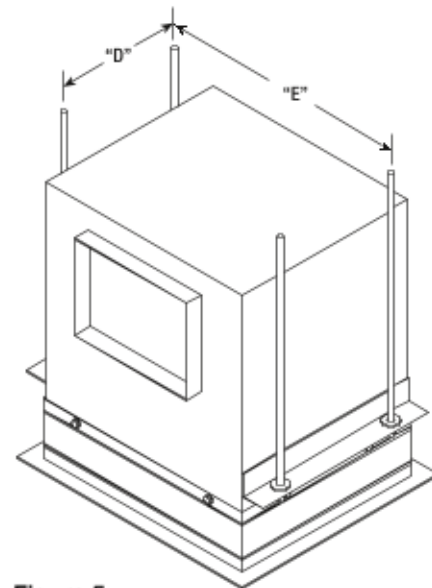

Figure 5
1. Suspend fan/damper assembly using #10-32 threaded steel rod as shown in **Figure 5**. Suspend from joists or cold rolled channels (do not suspend from beams). If vibration isolators are used, fender washers must have a larger outside diameter than the holes in the fan mounting angle.